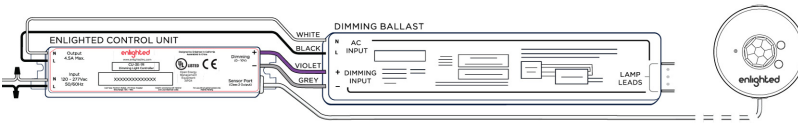

Figure 2: Wiring Diagram
7.	Connect linear 6pin connector to the Enlighted Compact Sensor. (See Figure 2)